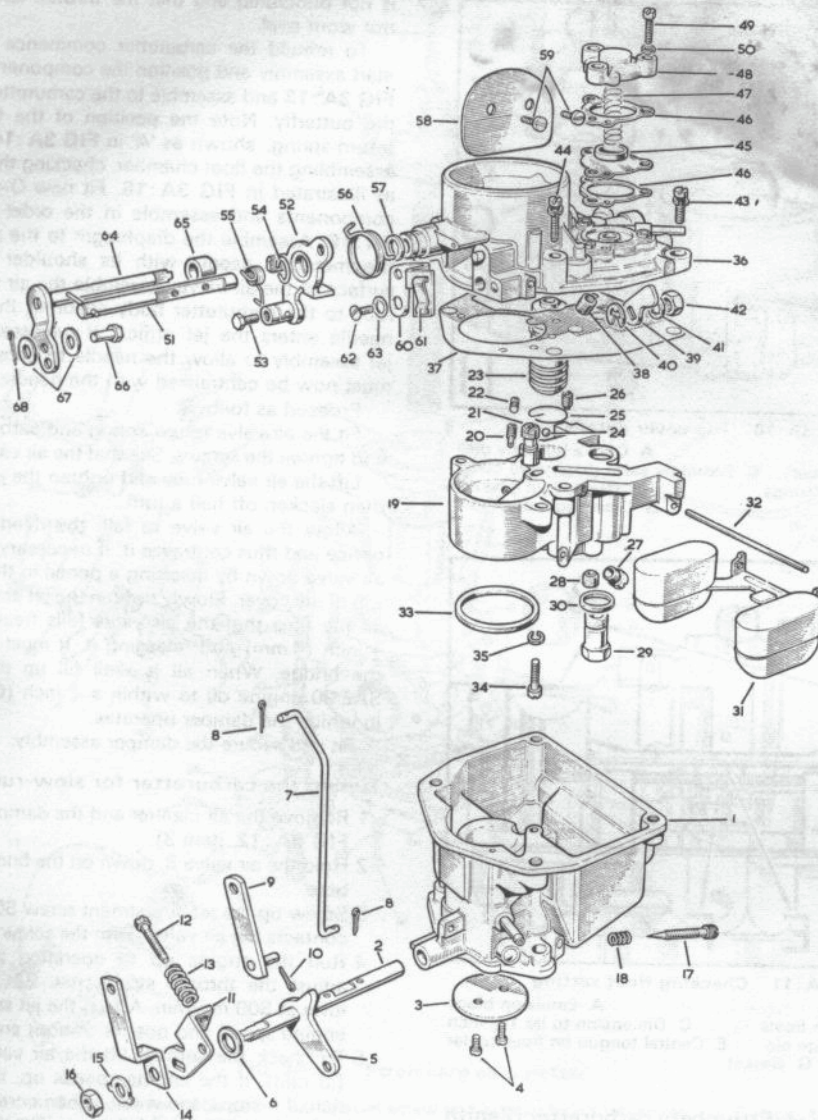

FIG 3A:9 Zenith carburettor
Use all new gaskets and seals being careful to position the O-ring 33 in the emulsion block 19 correctly. Proceed by reversing the dismantling process, making sure that the butterfly valves are aligned with the marks made when dismantling. See that the economy valve diaphragm and gaskets have the air hole aligned with the hole in the carburetter cover. FIG 3A:10 shows the assembly in detail. Set the float level as follows: Position the float assembly and emulsion block on the top cover held upside down as shown in FIG 3A:11. The dimension 'C' must be adjusted by bending the tongue E not by altering the float carrier arms. Check the fast-idle interconnection by closing the strangler valve (58 in FIG 3A:9), fully and then seeing if a .040 inch (1.25 mm) diameter drill can just pass between the throttle butterfly edge 3 and the choke tube. Bend link 7 until this condition exists. On Series III models use a .055 inch (1.40 mm) drill for this test.
- Key to Fig 3A:9